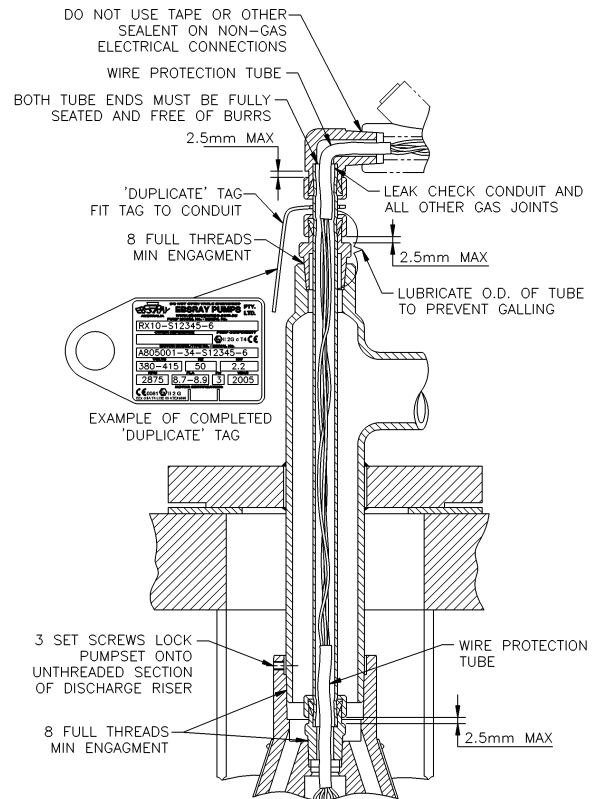

Figure 6
4. Fit conduit to compression tube fitting and tighten nut on fitting as shown in Figures 6 & 7 (2.5 mm hex key used as a no-go gauge which is approximately 1 3/4 turns after hand tight.).
- b) Fit DPS to Junction Box (For Junction Boxes which are not fitted with a 1/2" NPT(F) thread, use adaptor supplied) Take care when fitting to avoid damaging electrical leads.
- e) Fit 3/4" NPT compression tube fitting to 3/4"(F) NPT side of Conduit Seal.
20. Fit duplicate Pumpset/Motor identification tag over Motor Leads and over conduit as shown in Figure 6
22. Slide wire protection tube half way into 3/4" NPT compression fitting. See Figure 6